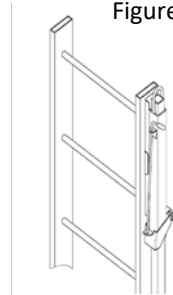

Figure 5
1. Safety Post may be mounted on one of the ladder risers by drilling $\frac{7}{16}$ " holes in the ladder riser and bolting through as shown in Figure 5.